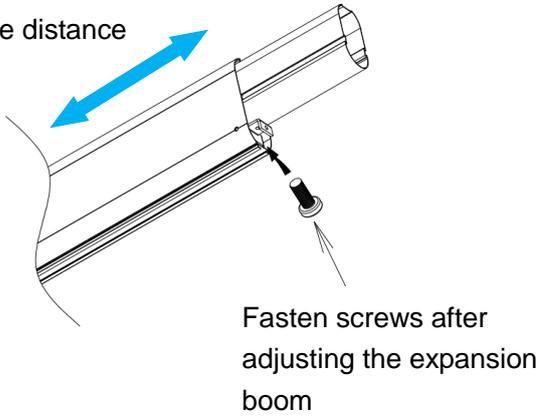

Figure 2-4C
- 4) Put the expansion boom into the main boom, adjust the length of the expansion boom, and fasten the expansion boom with screws, as shown in Figure 2-4C.